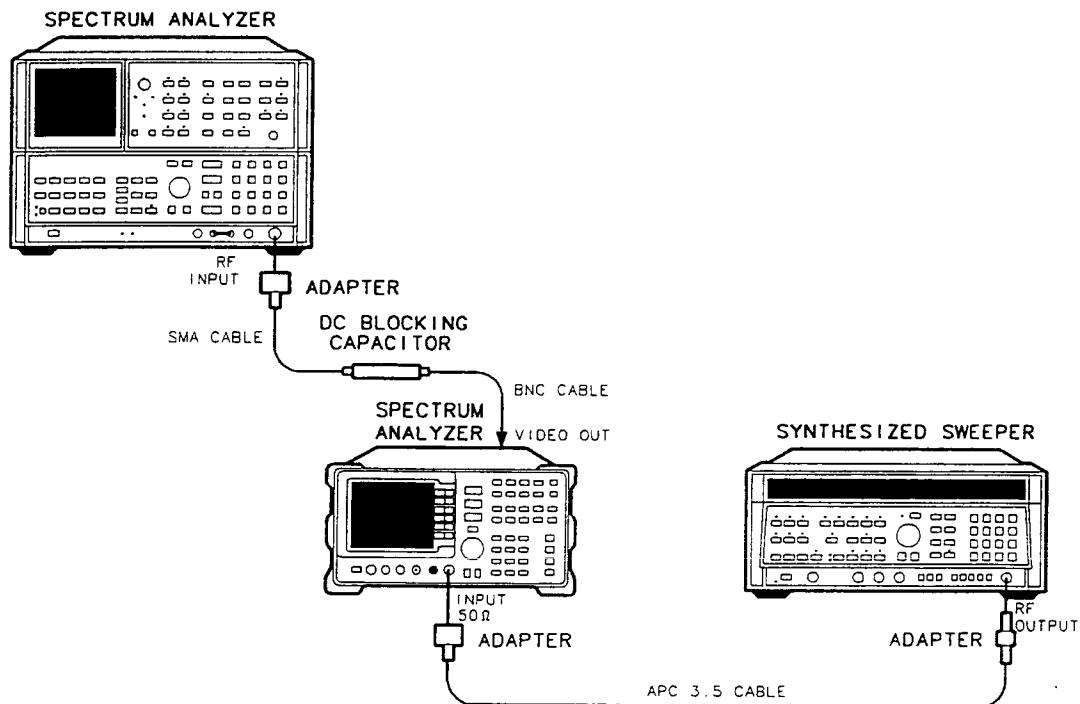

Figure 3-11. Residual FM Test Setup
1. Connect the equipment as shown in Figure 3-11.